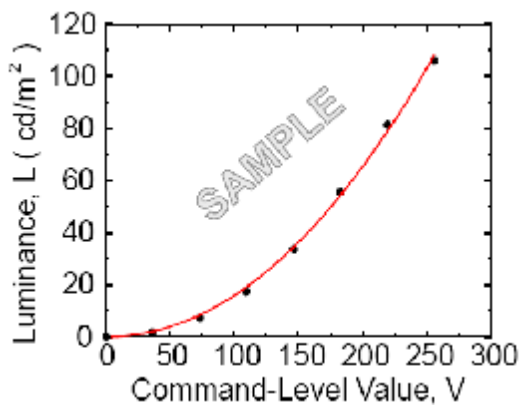
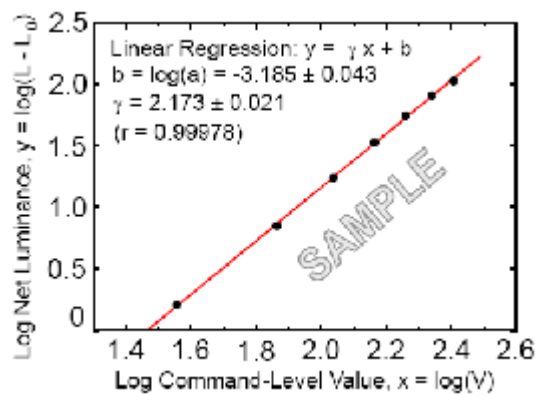

FIG. 5 Sample Luminance vs. gray scale
FIG. 6 Sample Log-log plot of luminance
7. GSR is the rate of gamma shift at up, down, left and right 60 degree viewing angle compare with center gamma. For more information see FIG 5 and FIG 6 (By EZ Contrast)
The GAMMA we calculate from the log-log representation (FIG. 6)